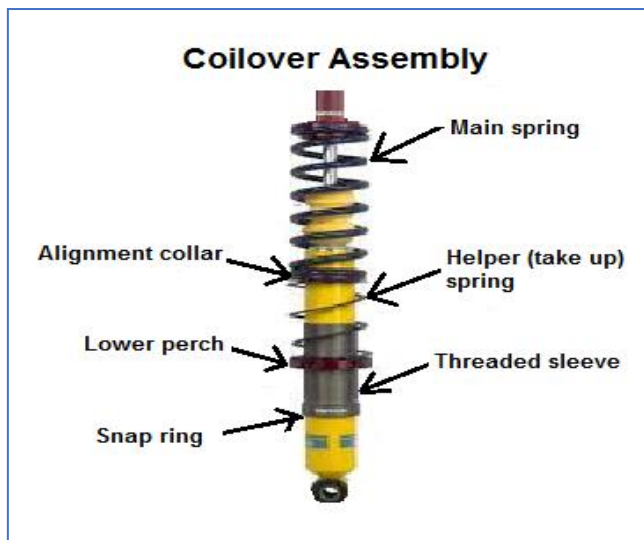

Figure 20
**25.18** Helper or take up springs with alignment collar allowed. Only one take up spring and collar allowed per coil over assembly. Maximum take up spring rating must not exceed 5 pounds. The only purpose of the take up spring is to support the main spring if it is released during droop. (*Figure 20*)